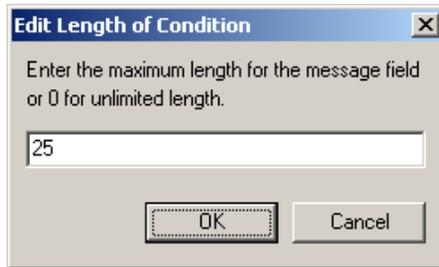

Figure 118. Edit Length Dialog Box
11. To change the maximum field length, select the desired field in the Name column and click **Edit**. The Edit Length dialog box shown in Figure 118 appears.